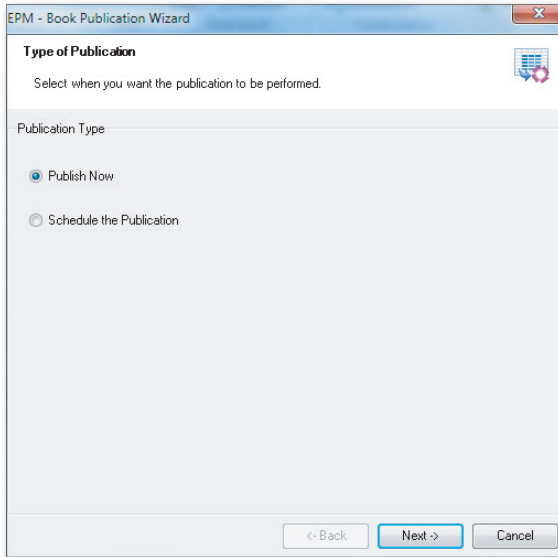

Figure 7.32 Publishing a Book Template—Part A
1. In the EPM tab of the Excel add-in interface of SAP BPC, select the `PUBLISH BOOKS` menu option under the `BOOK PUBLICATION` menu. You're prompted to select when you want to publication to be performed. Under `PUBLICATION TYPE`, select when you want to publish the template (Figure 7.32).